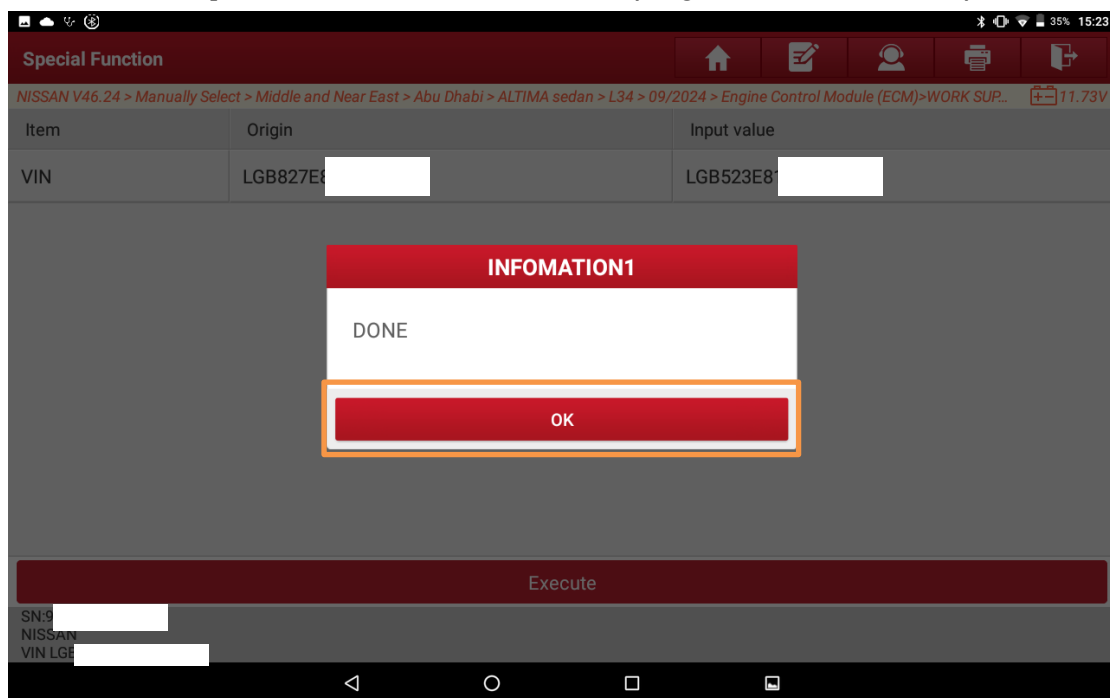

Figure 16
11. Once VIN registration is completed, a pop-up window will indicate that the function has finished. Click "OK" (Figure 16) to return to the [WORK SUPPORT] menu interface for the ECM (Engine Control Module).